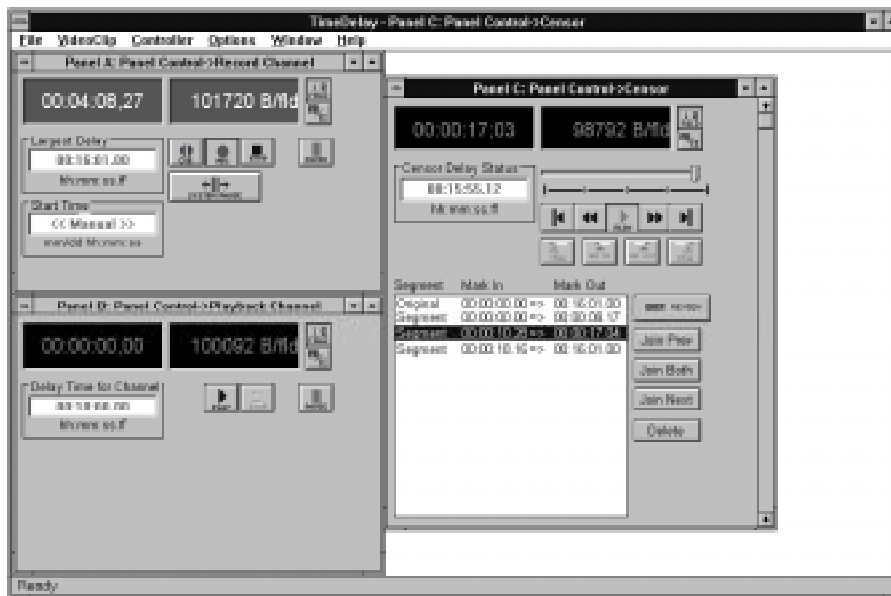

Figure 165. Censor channel
1. Start recording. On the censor channel, a clip name *Original* is added to the clip window (Figure 165). The starting timecode is 00:00:00.00 and the ending timecode is set to the **Largest Delay** value.